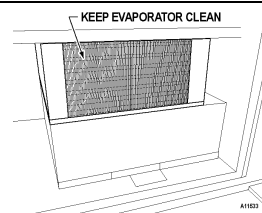

Figure 11b. Evaporator
- Is the evaporator fan working? To check if the fan is running take a small piece of paper in front of the evaporator coil and see if the evaporator fan will draw the paper. See Figure 11b on page 28.